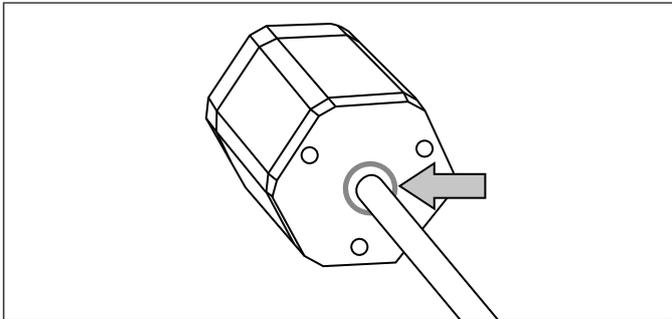

Fig. 22: Correct position of the O-ring in the groove of the sensor electronics housing
- Ensure that the O-ring seal (part no. 562 003) is correctly inserted in the groove on the sensor electronics housing before inserting the base unit into the support tube and attaching the sensor electronics (Fig. 22).
- Ensure that the O-ring seal (part no. 562 003) is correctly inserted in the groove on the sensor electronics before inserting the base unit into the support tube or the HFP profile and attaching the sensor electronics (Fig. 22).